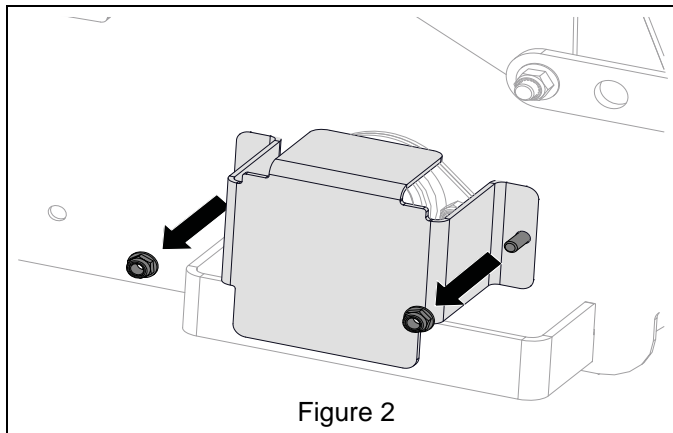

Figure 2
3. Remove and retain two nyloc nuts and hex bolts from right end cover and remove cover. See Figure 2.